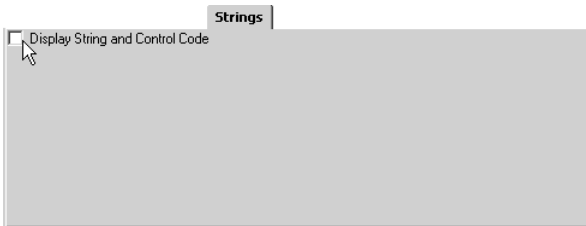

Figure 5-12. Strings Tab
- The *Strings* tab (Figure 5-12) contains the field that switches on/off the output alphanumeric code describing surveying points on the screen.